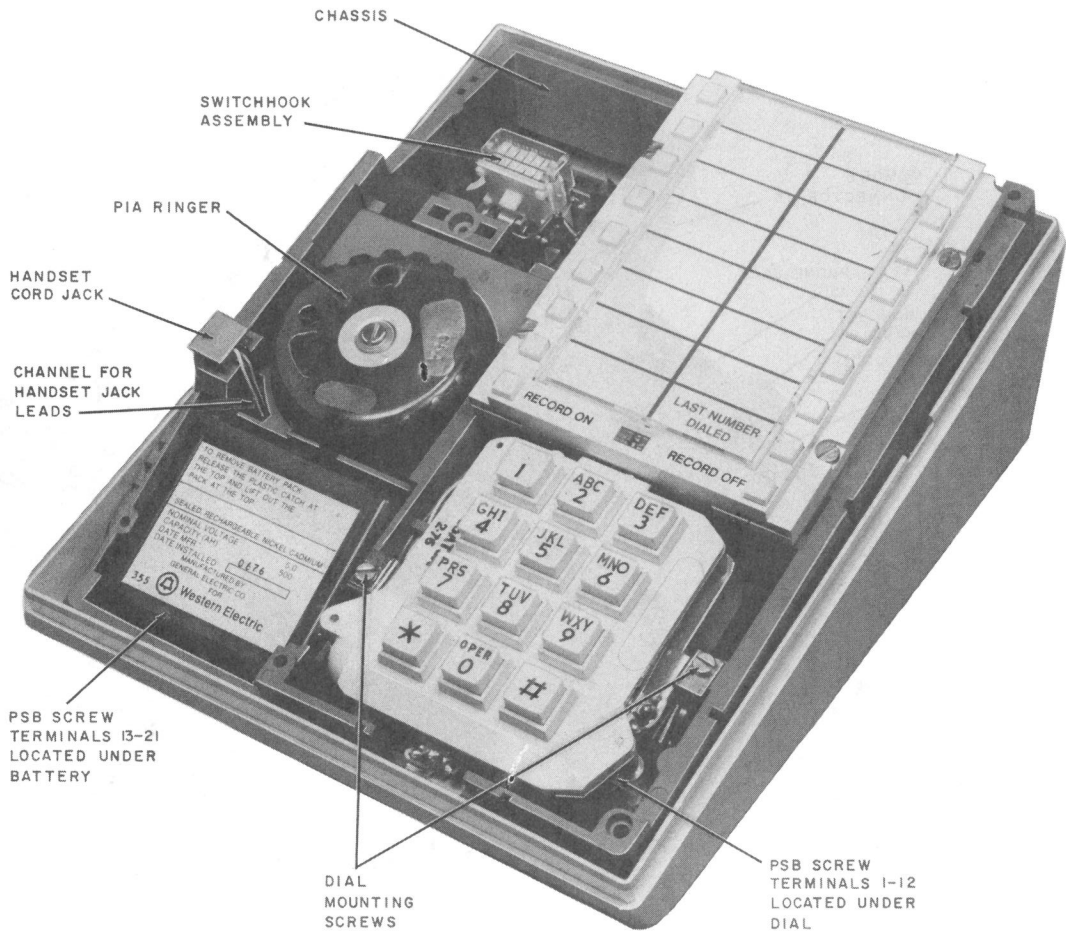
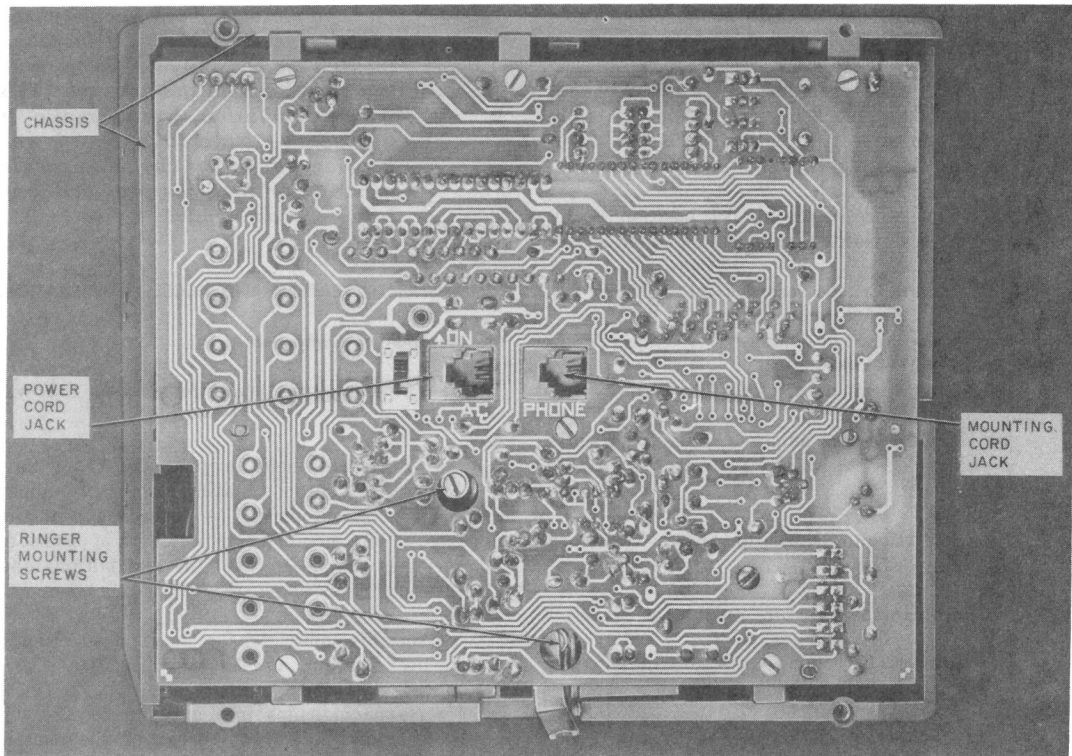

Fig. 5—2960A01M Telephone Set With Handset, Faceplate, Shield, and Upper Housing Removed
Fig. 9—Bottom View of Power Supply Board (Lower Housing Removed)
- **Battery**—snaps into a cavity on the top side and left front corner of the chassis (Fig. 5).
- **Ringer**—fastened by two screws to bosses on the bottom of the chassis (Fig. 9) and rests in a cavity just to the rear of the battery cavity (Fig. 5).
- **Handset Jack**—slides into a cavity on the top left side wall of the chassis adjacent to the ringer and battery (Fig. 5).
- **Switchhook Assembly**—soldered to power supply printed wiring board and located at left-rear corner of power supply board (PSB) (Fig. 5).
- **Power Supply Printed Wiring Board Assembly**—fastened by six screws to bosses on the bottom of the chassis (Fig. 9).
- **Power Supply Printed Wiring Board Screw Terminal Areas**—(Fig. 5 and 6).
- **Chassis**—main structural member to which other component assemblies are fastened, including the upper and lower housings (Fig. 5 and 9).